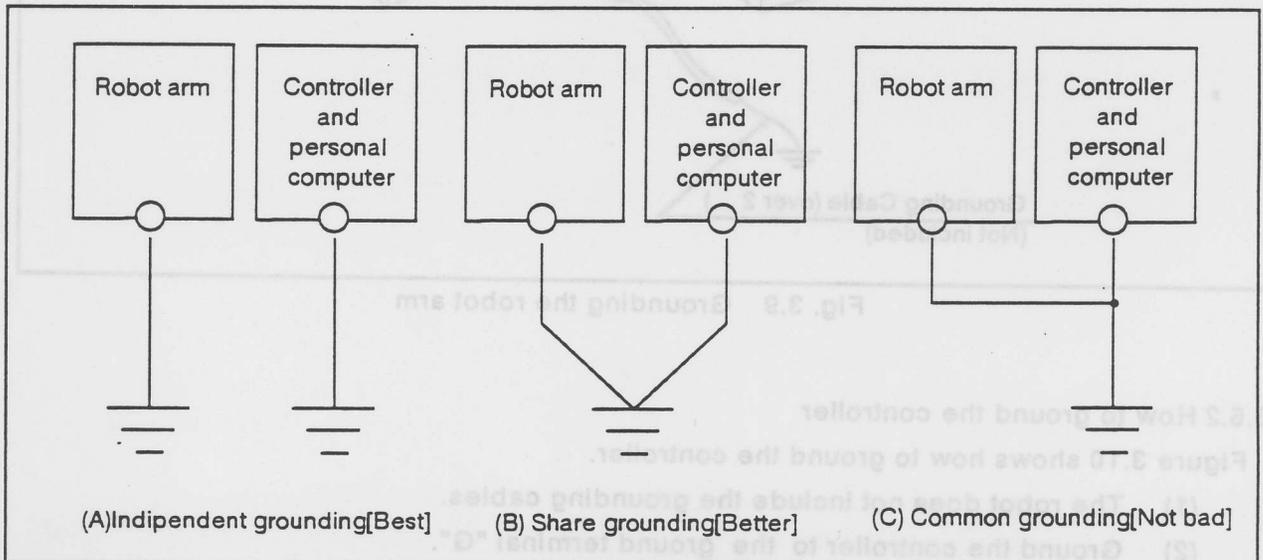

Fig. 3.8 Grounding
- (1) Figure 3.8 shows how to ground.